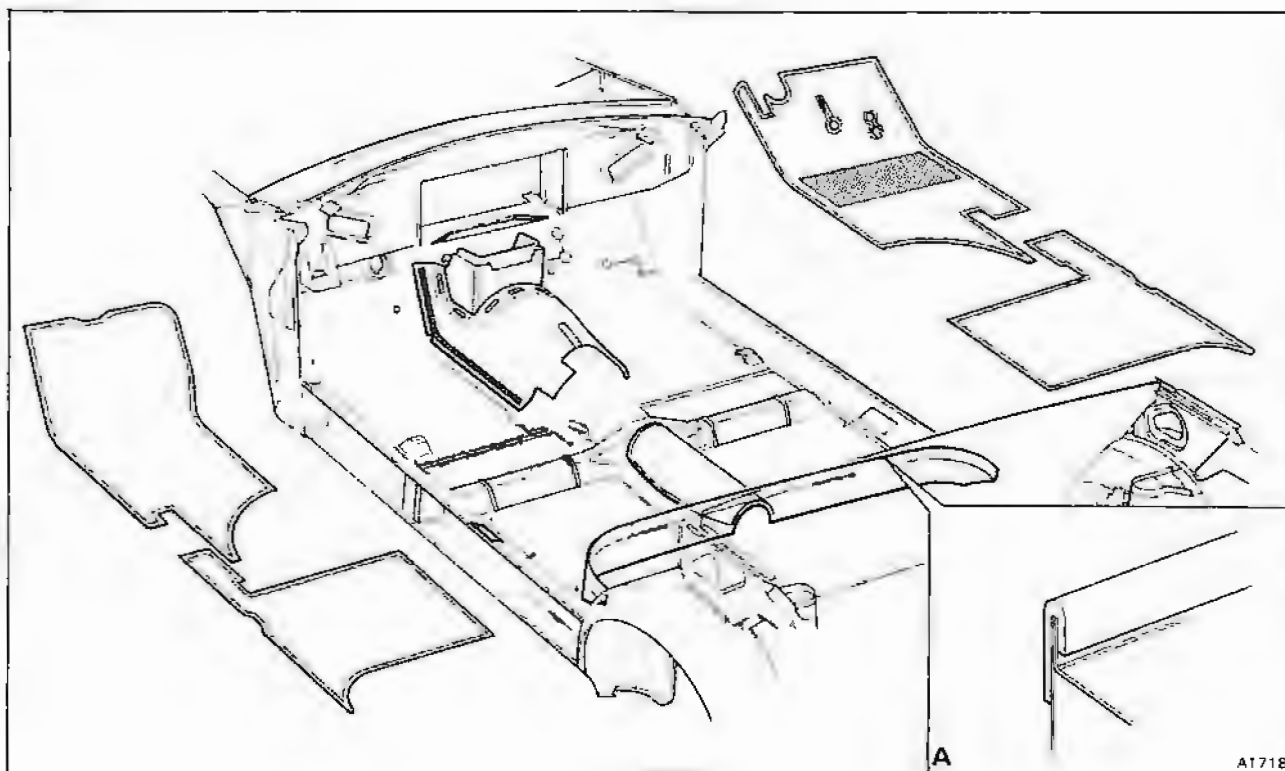

Fig. S15-14 Carpets
Floor and transmission tunnel carpets — To remove and fit (see fig. S15-14)
Heelboard carpet trim — To renew (see fig. S15-14)
7. Apply Apollo Adhesive AX 2344 to the top section of the heelboard and to the foam padding strip. Allow five minutes for the adhesive to 'flash' dry, then press the foam strip into position (see fig. S15-14, inset A).